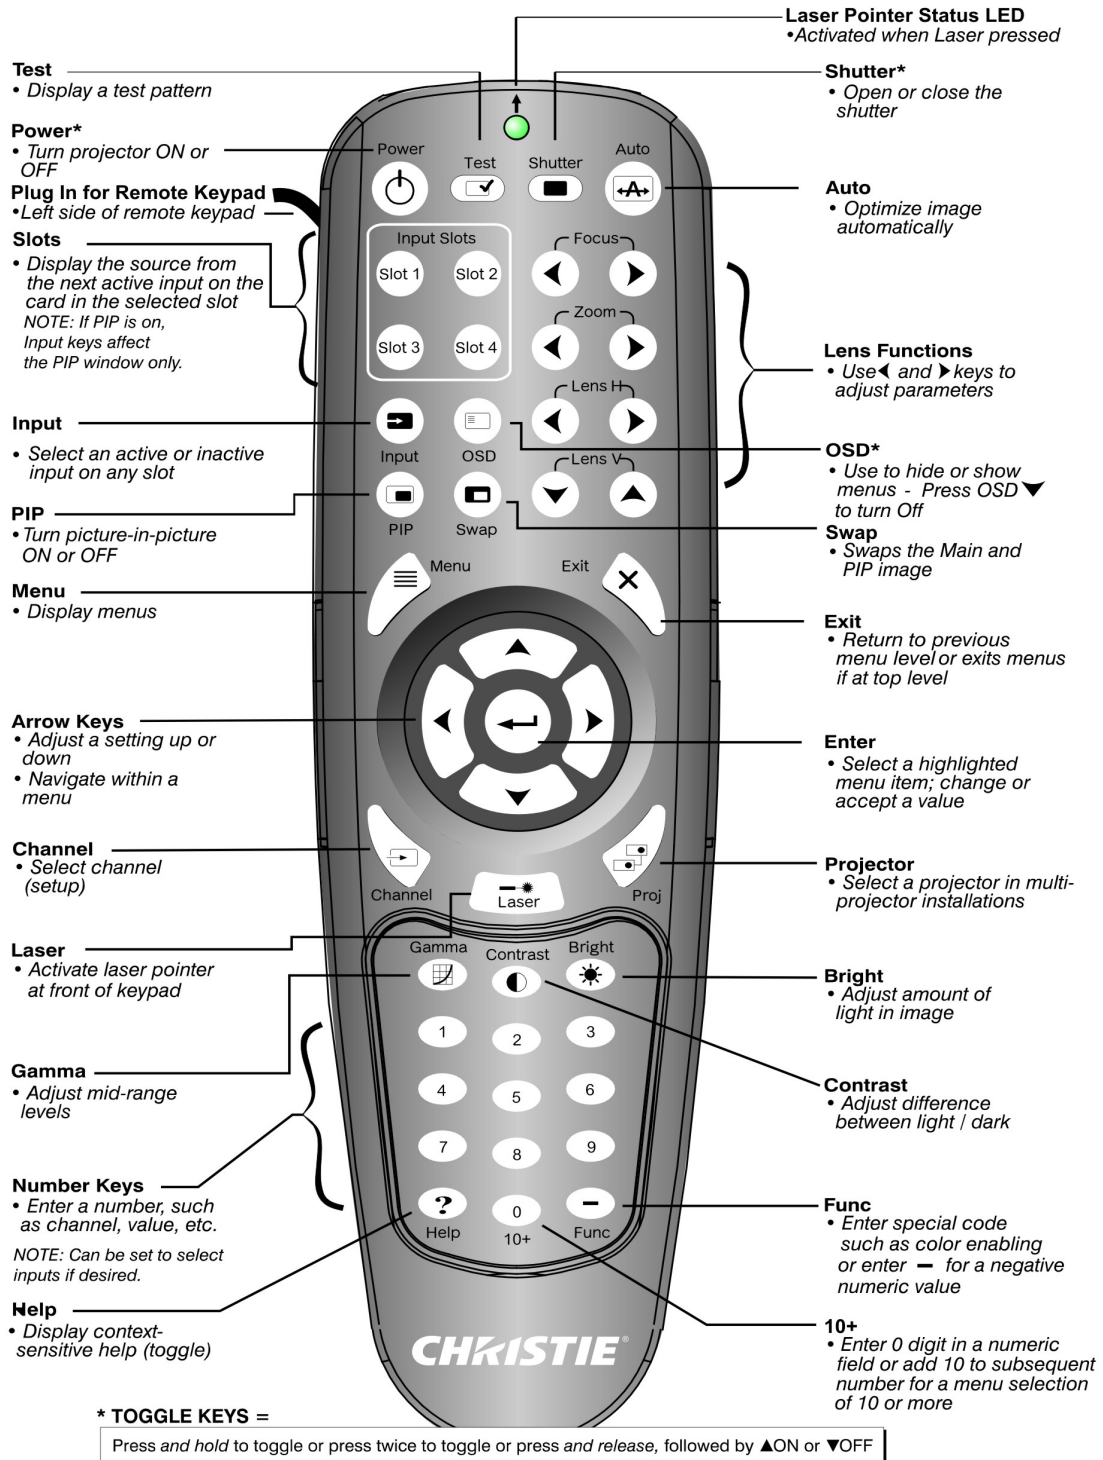

FIGURE 3-1 REMOTE KEYPAD
- **Remote Keypad** for wired or wireless control up to 25 feet (8m) away (includes cable for use as a wired remote). The remote keypad controls the projector by way of wireless communications from a battery-powered infrared (IR) transmitter. Use the remote keypad the same way you would use a remote keypad supplied with a TV or VCR. When pressing a function key, direct the keypad toward the projector's front or rear IR sensor. One of the two IR sensors on the projector will detect the signal and relay the commands for internal processing. A laser pointer is built into the remote keypad. See *Figure 3-1 Remote Keypad*.
- Press keys one-at-a-time; there are no simultaneous key combinations required. **NOTE:** Use POWER, SHUTTER, and OSD functions by doing one of the following: “press-and-hold” (2 seconds) or press twice quickly, followed by pressing either the UP ARROW KEY to switch on or the DOWN ARROW KEY to switch off once. See *Figure 3-1 Remote Keypad*.
Refer to *Figure 3-1 Remote Keypad* for the description of those keys provided for the remote keypad.
Specific keypad commands are explained, see *Figure 3-1 Remote Keypad*: